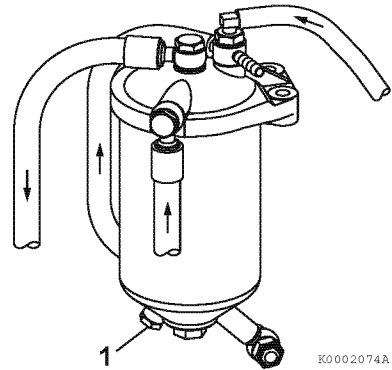

Figure 3
2. Loosen the drain plug (1, **Figure 3**). Drain off any water and dirt collected inside. Dispose of the collected water and dirt properly.